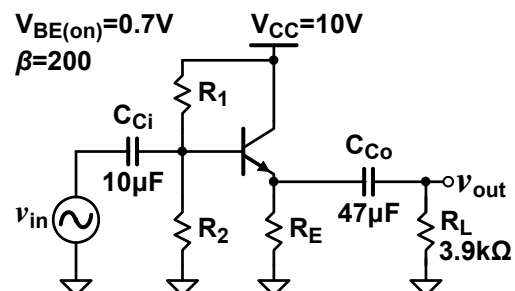

Figure 2: Common collector amplifier
a) Calculate the values of R_C , R_E , R_1 and R_2 in Figure 2 that will be used in the procedure according to the following requirements:
2.a) Build the circuit given in Figure 2 using the values computed in the preliminary work. Set the input voltage to **100 mV_{peak}**. Record the values of v_{in} , v_{out} and calculate $A_V = 20 \log|v_{out}/v_{in}|$, sweeping the input frequency from **50 Hz** to **100 kHz**.